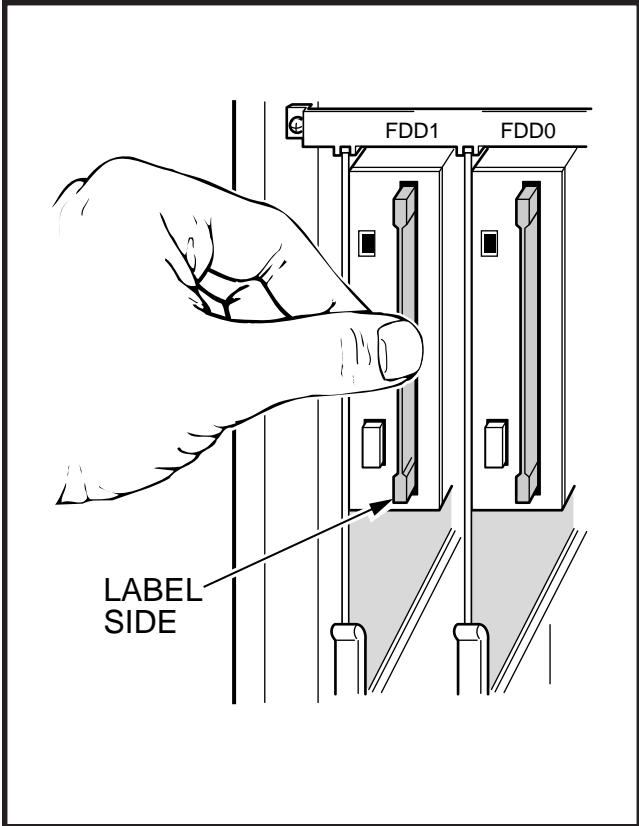

FIGURE 4-75—INSERTING DISK
- 2) If the system uses **D.02** or later version software, insert the **SYSTEM** disk in **FDD0**. If two drives are used, insert the **MAINTENANCE** disk (Figure 4-75) in **FDD1**. If the system uses **D.01** software, insert the program disk in **FDD0**.